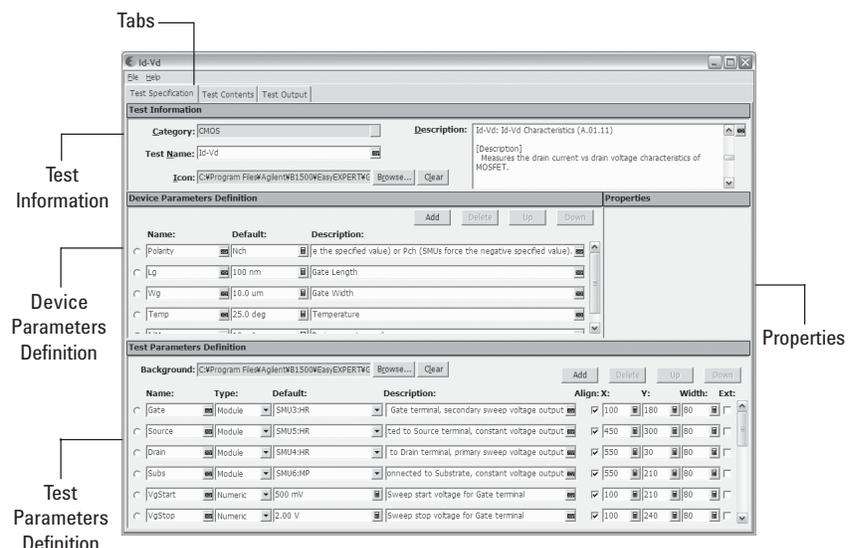

Figure 3. Test Definition window.
3. In the Library pull-down menu, select "Open Definition of This Test..." The test definition window appears, as shown in Figure 3.
In this application note, the Test Specification setup is used as an example. Figure 3 shows the four setup areas under the Test Specification tab.